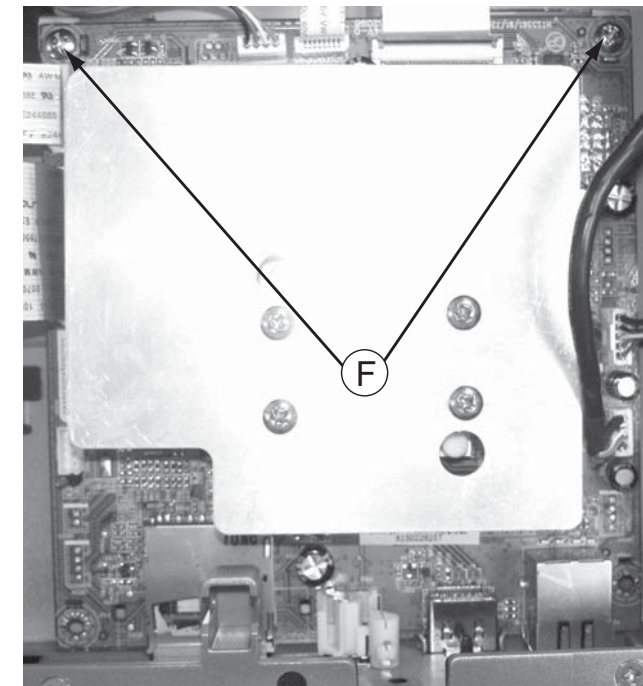

Figure 6
- 2) Loosen 2 screws "F" on the top of BD Board as shown in figure 6.